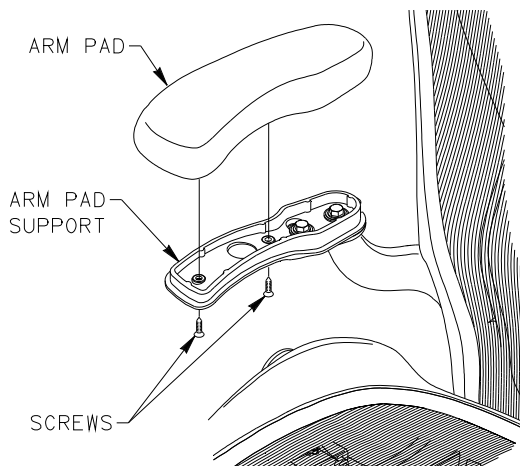

FIGURE 1
1. USING #2 PHILLIPS HEAD SCREWDRIVER REMOVE AND SET ASIDE (2) SCREWS FASTENING ARM PAD TO ARM PAD SUPPORT. REMOVE ARM PAD BY PULLING UP AND PIVOTING BACK FROM FRONT EDGE. SET ARM PAD ASIDE. SEE FIGURES 1 & 5.
4. INSTALL ARM PAD ONTO ARM PAD SUPPORT BY INSERTING TAB ON ARM PAD SUPPORT INTO SLOT IN ARM PAD AND PIVOTING DOWN ONTO ARM PAD SUPPORT. REINSTALL AND TIGHTEN SCREWS SECURING ARM PAD. SEE FIGURES 1 & 6.
1. USING #2 PHILLIPS HEAD SCREWDRIVER REMOVE AND SET ASIDE (2) SCREWS FASTENING ARM PAD TO ARM PAD SUPPORT. REMOVE ARM PAD BY PULLING UP AND PIVOTING BACK FROM FRONT EDGE. SET ARM PAD ASIDE. SEE FIGURES 1 & 6.
6. INSTALL ARM PAD ONTO ARM PAD SUPPORT BY INSERTING TAB ON ARM PAD SUPPORT INTO SLOT IN ARM PAD AND PIVOTING DOWN ONTO ARM PAD SUPPORT. SECURE WITH SCREWS. SEE FIGURES 1 & 6.